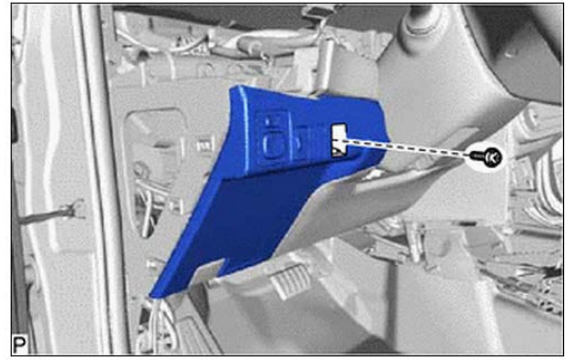

Figure 14
- (b) Remove screw (Figure 14).